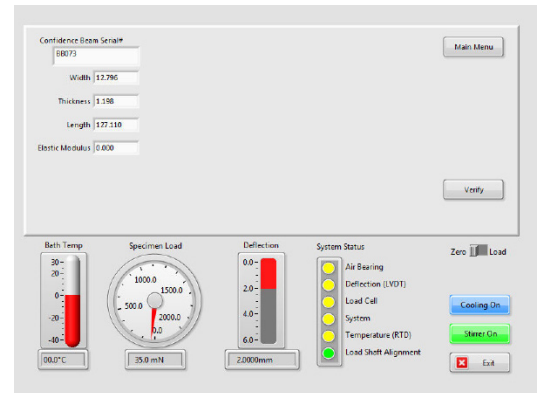

Figure E.7 - Verification main screen
1. To begin, select “Verification” from the Main Screen. The screen shown in Figure E.7 will display.